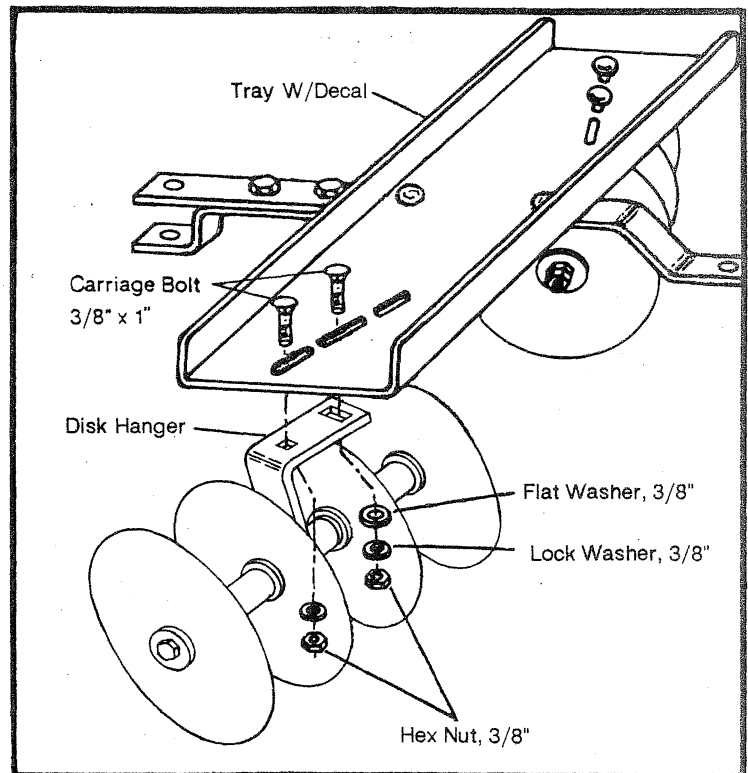

Fig. 4
Refer to Fig. 4
- An additional Disk Harrow can be assembled (as described in Fig. 4) to form a Tandem Disk Harrow. Attach front and rear gangs using a 1/2" x 1-1/2" Hex Bolt and a 1/2" Lock Nut. Allow about 1/8" gap between the two hitch bars.